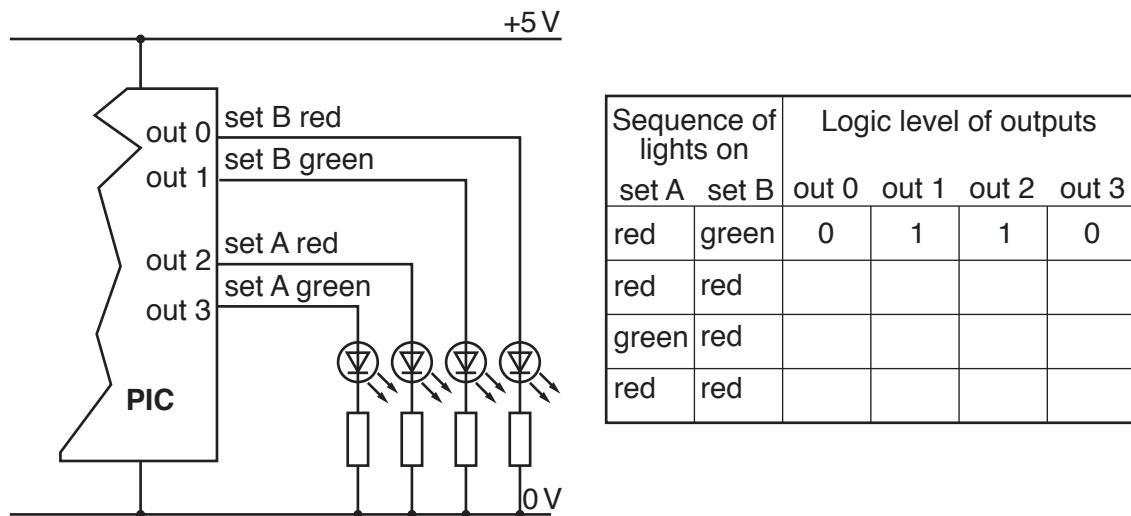

Fig. 17
- (d) Fig. 17 shows the outputs of a programmable IC (PIC) used to control a simple traffic light sequence on two sets of traffic lights at a road works. Each set of lights has only red and green lights for stop and go.